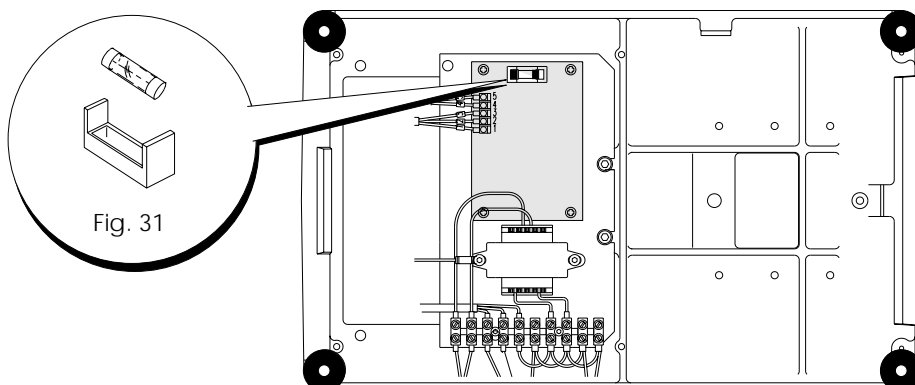

Fig. 31
4. replace the fuse (Fig.31) and the bottom plate.